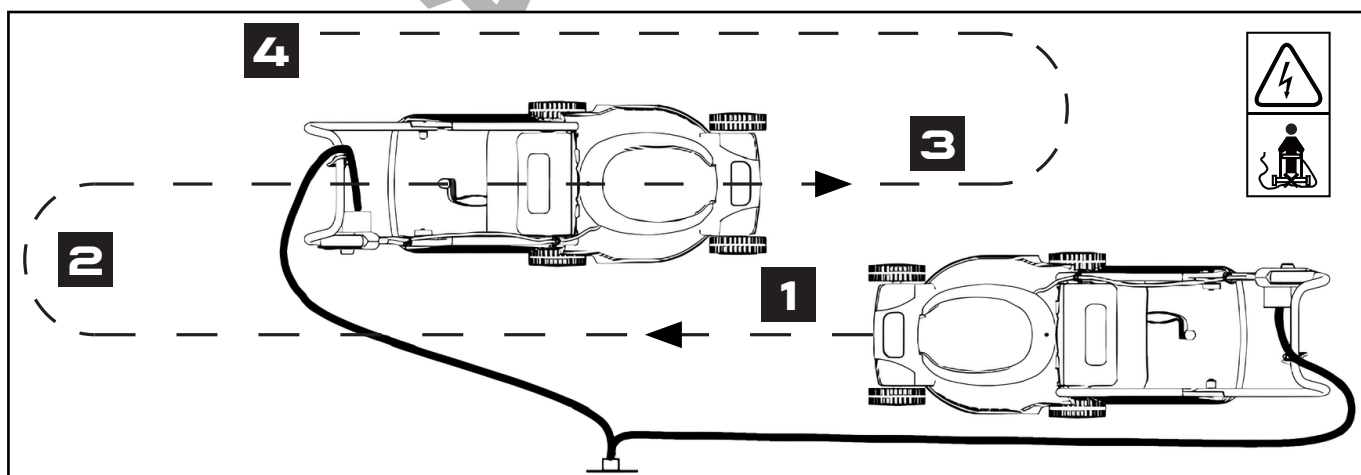

Fig. 4
Operation (Fig. 4)
3. Proceed as shown in figure 4.